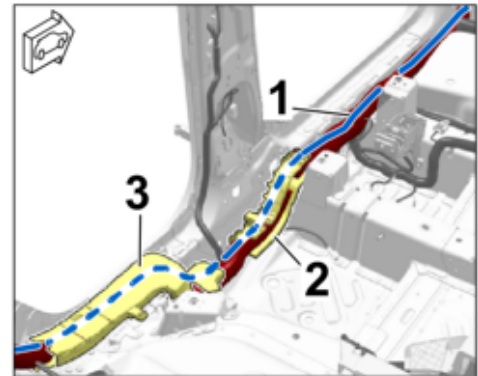

Figure 30
3.2.2 Door sill area, left (⇒ Figure 30)